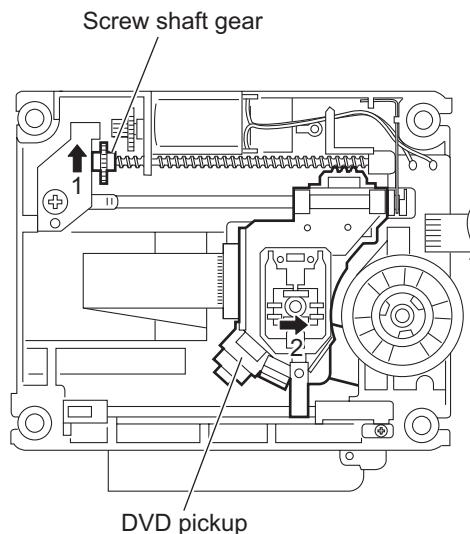

Fig.7
- (5) Turn the screw shaft gear in the direction of the arrow 1 to move the DVD pickup fully in the direction of the arrow 2. (See Fig.7.)